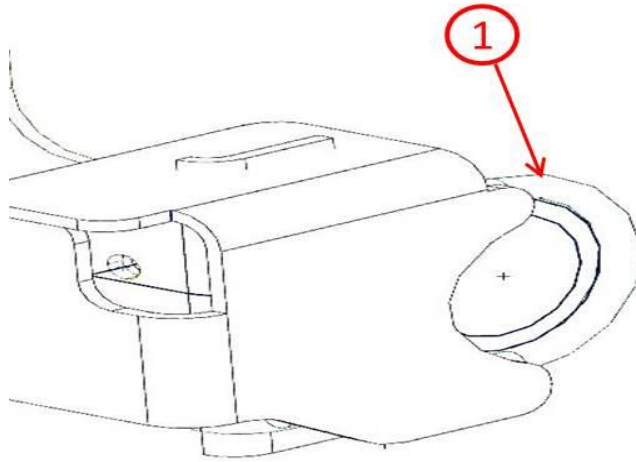

Fig. 4 U Bolt
13. ****Install the U-bolt that was removed previously (1)**** on the bracket with the provided nuts (**Fig. 4**).